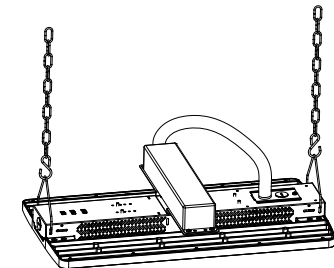

Figure 10
Step 2. Assemble the emergency power supply to the bracket, and then connect according to the wiring mode(Figure 10).